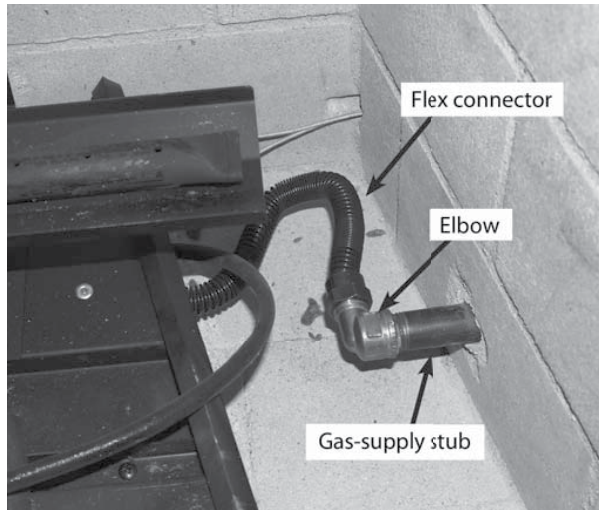

Fig. 4 - Connect gas supply
5. Locate the gas-supply stub inside the fireplace and remove the cap, if attached (see Fig. 4).
6. Use pipe compound resistant to all gases or Teflon tape to attach the supplied elbow to the gas-supply stub. Then attach the flex connector (coming off of the burner system) to the elbow (see Fig. 4).